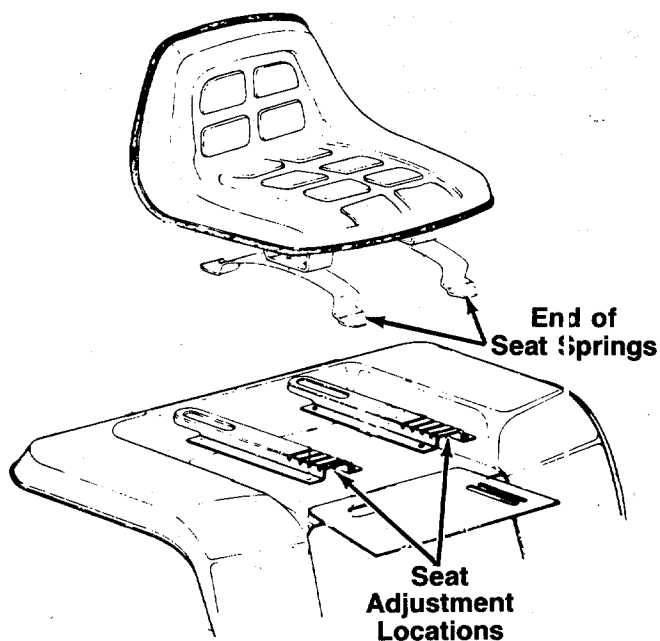

FIGURE 3.
1. Install the tractor seat in one of the four positions. To change positions, tip the seat all the way forward and lift it out of the slots on each side. See figure 3.